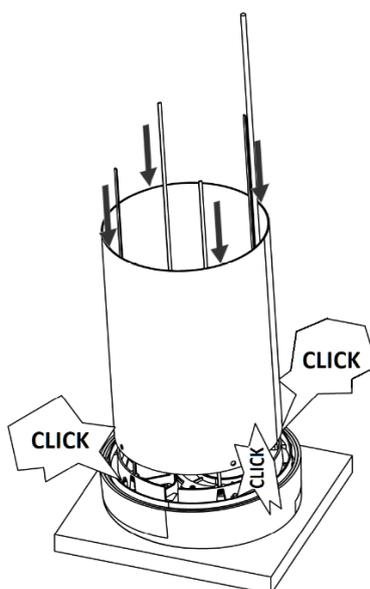

Figure 11 - Preparation of outside hood with  $\text{\O}250$  mm tube
3. Take the  $\text{\O}250$  mm tube (4) - holes facing downwards - then guide it outside the strips and the cable down toward the inside of the hood. Rotate the tube so the holes meet the spring catches on the hood and click the tube on. See Figure 11 below.